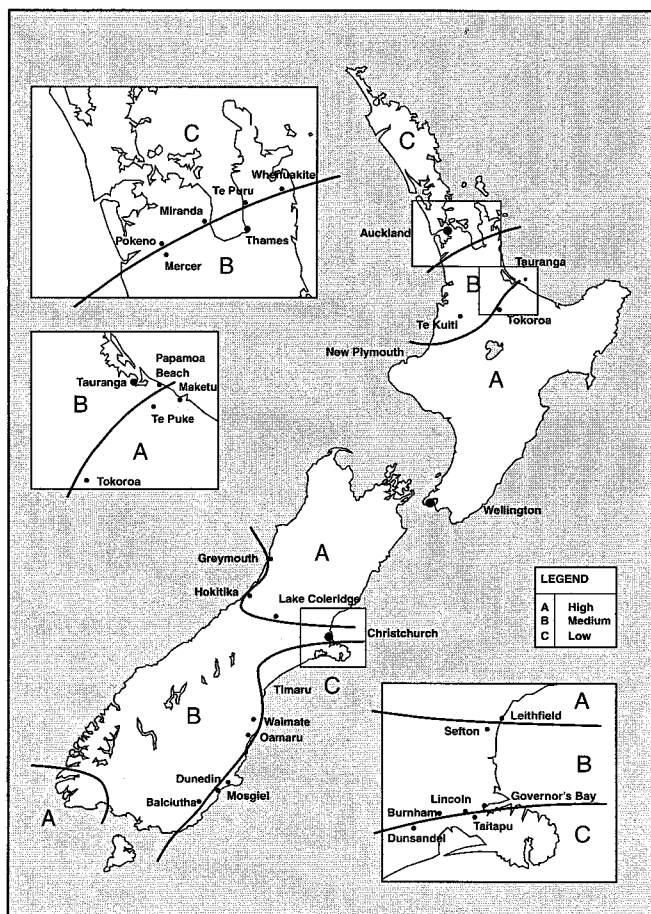

Figure 5 Seismic Zones
**Step 1** From Figure 5 below left (from NZS 3604:1999) determine the seismic zone for the building.